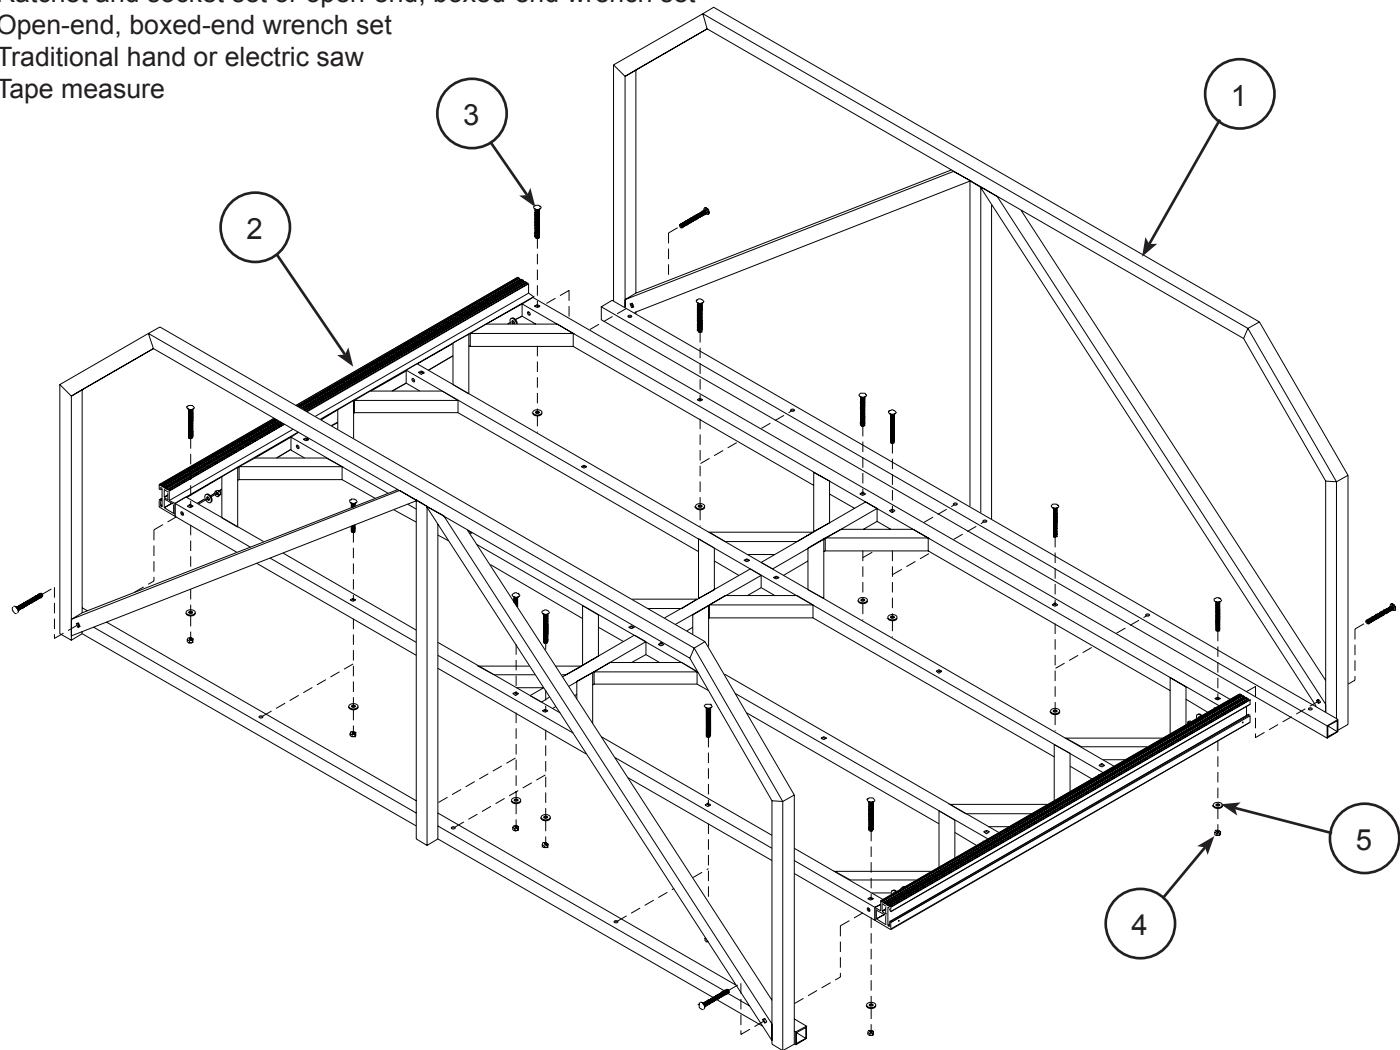

Figure 1.
- **Step 1:** Attached the two (2) handrail sections (Item 1) to the gangway base (Item 2) using the hex nuts (Item 4), carriage bolts (Item 3), and flat washers (Item 5) provided, (Figure 1). Make sure the bolts are tight but not over tightened.